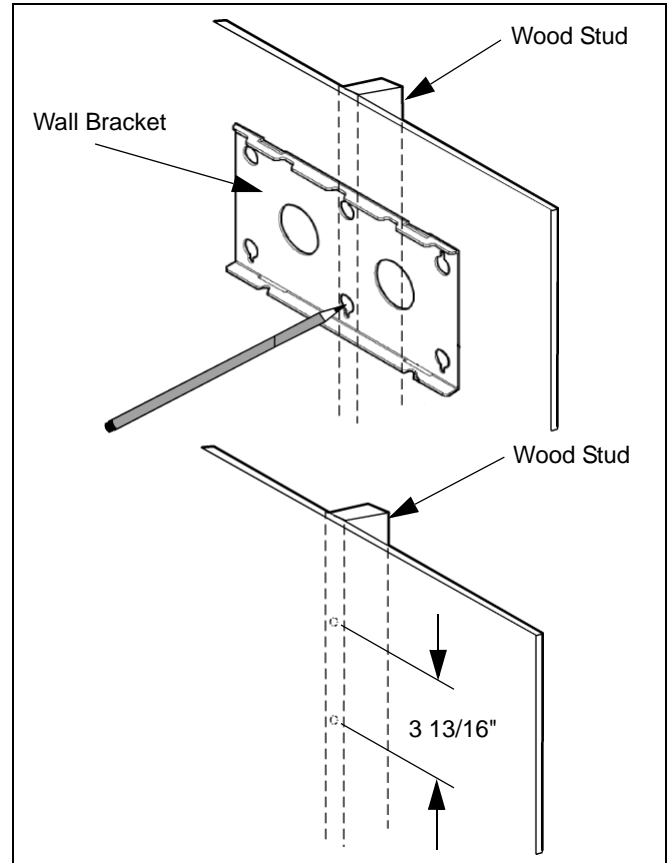

Figure 7: Locate and Drill Pilot Holes
- Locate stud and, using wall bracket (20) as a template at the desired height, mark the location of the two center mounting holes. (see figure 7)